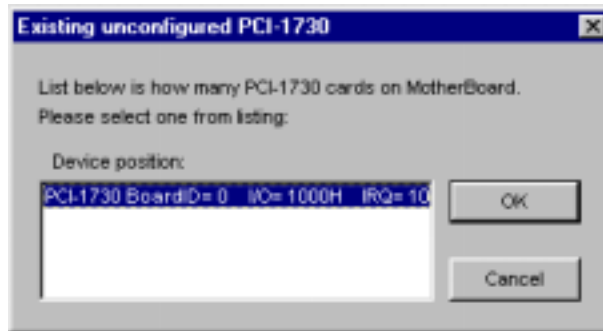

Fig. 2-5 The “*Device(s) Found*” dialog box
Step 3: Scroll down the *Supported of Devices* box to find the device that you wish to install, then click the **Add...** button to evoke the *Existing unconfigured PCI-1730* dialog box such as one shown in Fig. 2-5. The *Existing unconfigured PCI-1730* dialog box lists all the installed devices on your system. Select the device you want to configure from the list box and press the **OK** button. After you have clicked **OK**, you will see a *PCI-1730 Device Setting* dialog box such as the one in Fig. 2-6.